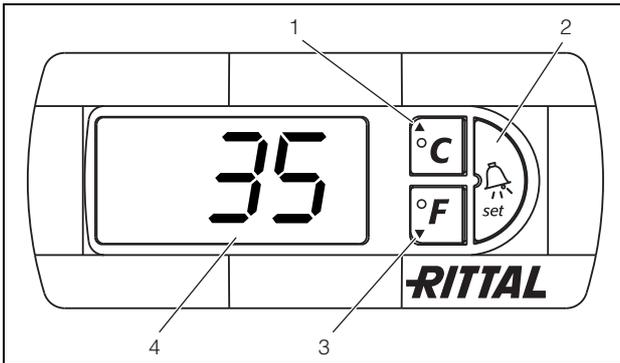

Fig. 18: Comfort controller
The Comfort controller has a 7-segment display (fig. 18, no. 4). After switching on the power supply, the current software version initially appears on this display for approx. 2 seconds.
The current enclosure internal temperature is usually displayed permanently. In the event of an error message, this will alternate with the temperature display. The unit is programmed using buttons 1 – 3 (fig. 18). The relevant parameters also appear in the display.
- Simultaneously press buttons 1 and 2 (fig. 18) for at least 5 seconds.
Using buttons 1, 2 and 3 (fig. 18) you can change 24 parameters within the preset ranges (min. value, max. value).